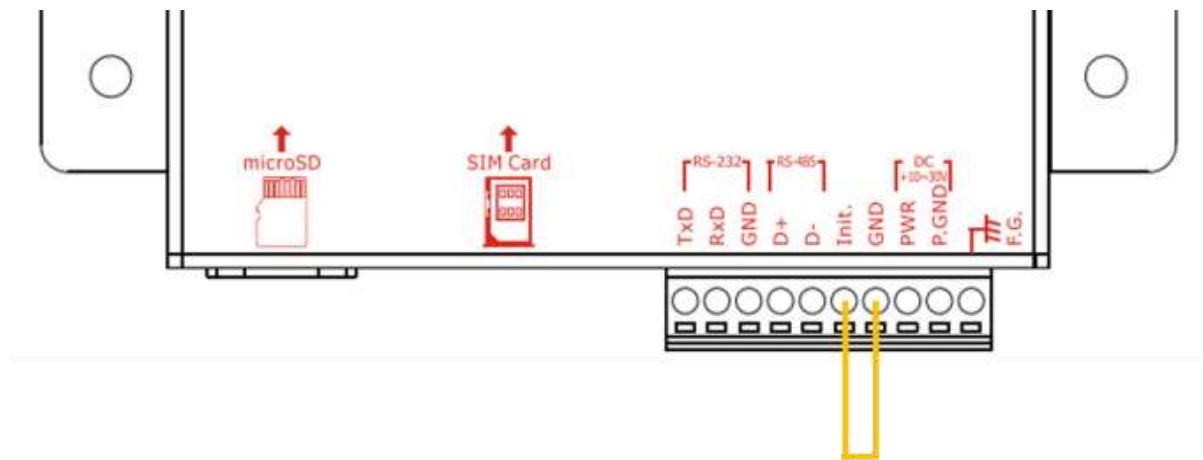

Figure 6.10.17
A. Determine that the 4th pin and the 5th pin on the GTP-541M are successfully connected, as shown in Figure 6.10.17